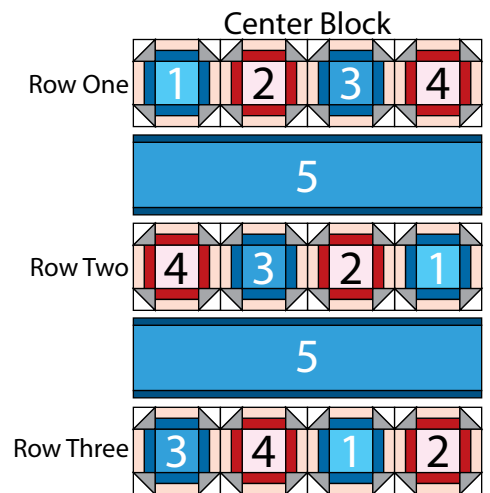

Fig. 14
10. Sew together (1) Block One square, (1) Block Two square, (1) Block Three square and (1) Block Four square, in that order from left to right, to make Row One (Fig. 14).
10. Sew together (1) Block Four square, (1) Block Three square, (1) Block Two square and (1) Block One square, in that order from left to right, to make Row Two (Fig. 14).
10. Sew together (1) Block Three square, (1) Block Four square, (1) Block One square and (1) Block Two square, in that order from left to right, to make Row Three (Fig. 14).
10. Sew together the Row One, (1) Block Five strip, Row Two, (1) Block Five strip and Row Three, lengthwise and in that order from top to bottom, to make the Center Block (Fig. 14).